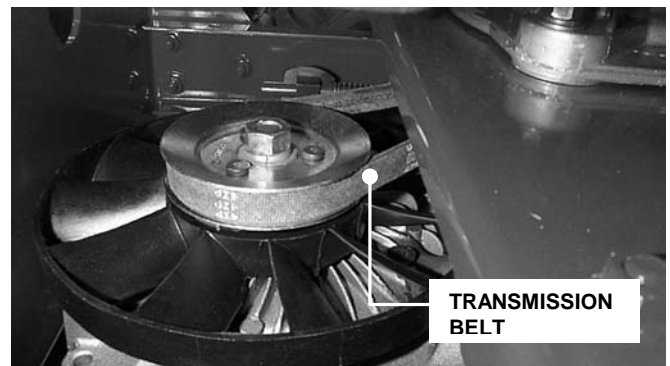

FIGURE 4.10
3. Roll transmission belt off of transmission pulley. See Figure 4.10.